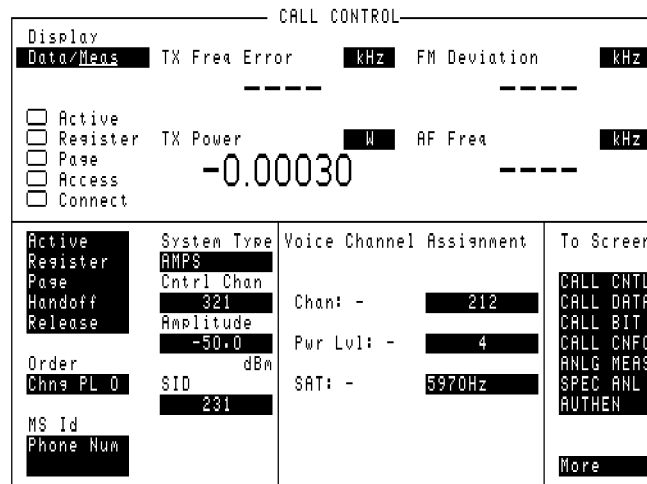

Figure 30 CALL CONTROL Screen with Meas Selected
- For system type AMPS, TACS, AND JTACS the following parameters are measured when the Test Set is in the connect state. See Figure 30 .